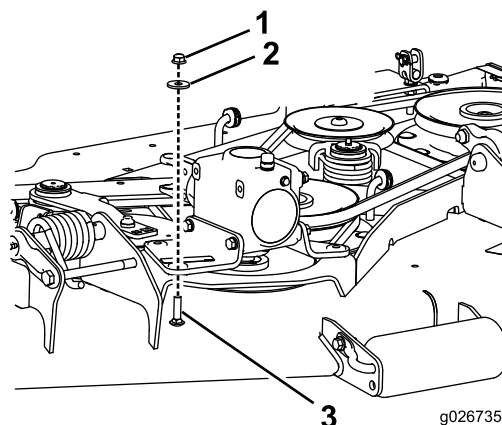

Figure 1
5. Install the gearbox (see Figure 1).
2. Remove the 3 nuts, washers, and carriage bolts securing the mounting brackets of the gearbox to the mower deck (Figure 1).